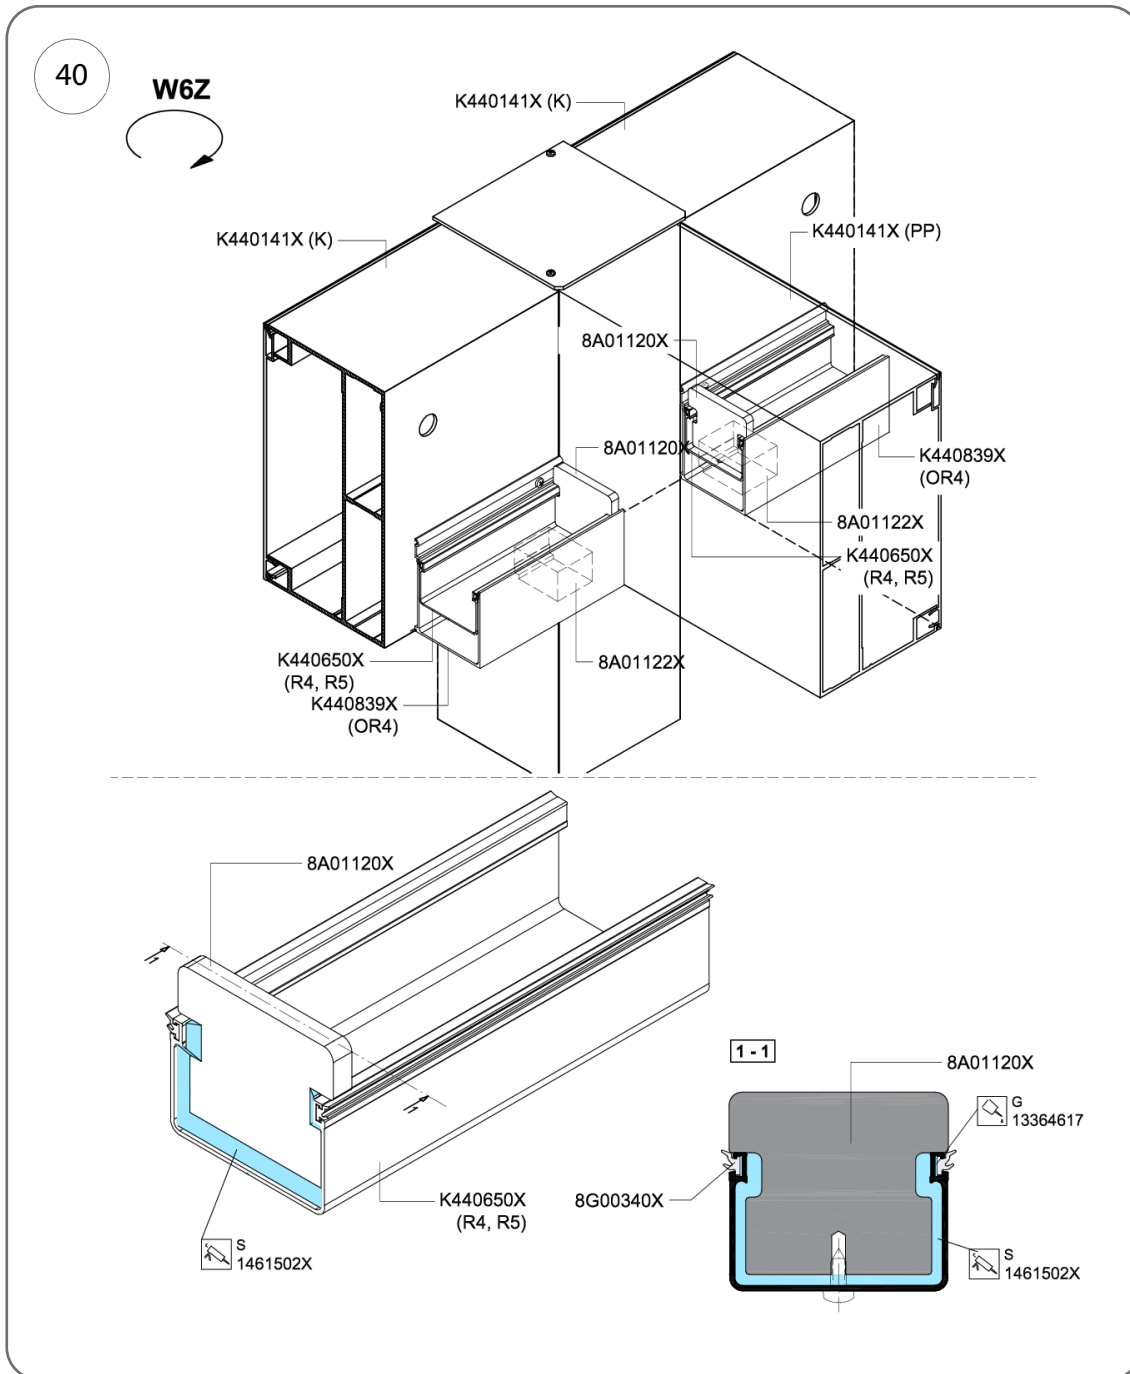

Fig. 40
5. Seal the joint between cover no. 8A01120X and the gutter with adhesive sealant as shown in Fig. 40.